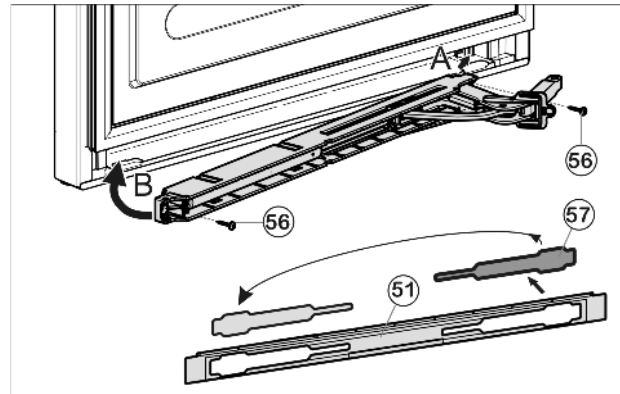

Fig. 23
- ▶ Loosen cover *Fig. 23 (57)* from the panel *Fig. 23 (51)* and insert on the other side.
- ▶ With the hinge of the soft stop unit facing the door hinge side, engage the soft stop unit (A) and swivel inwards (B).
- ▶ Tighten soft stop unit (2 x Torx 15) *Fig. 23 (56)*.